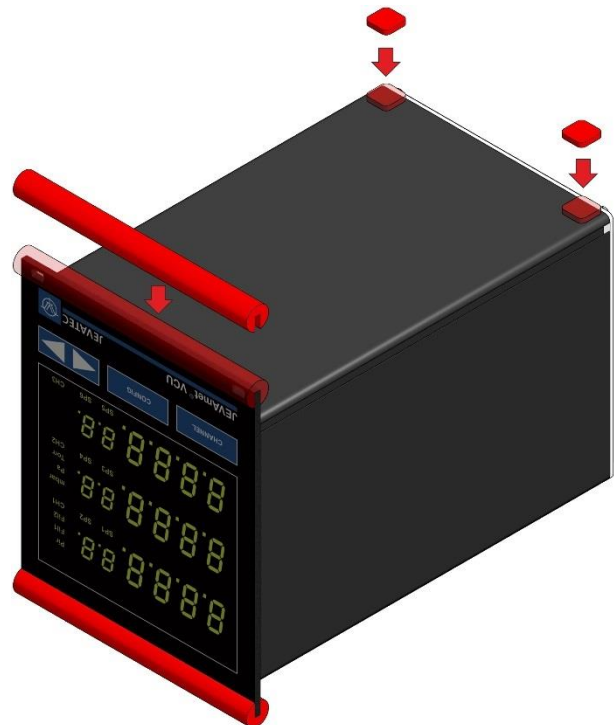

Figure 8 – Preparing the bottom side of the instrument for utilisation as a benchtop
- Place the JEVAmet® VCU on its back (🔗📖 Figure 8, page 23)